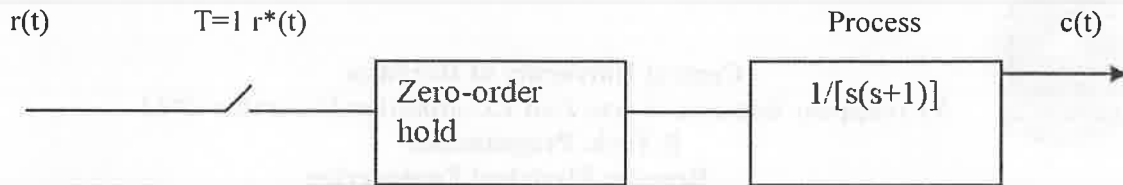

Fig.1
Q. No 3 Obtain the unit impulse response of the open-loop sampled data system shown in Fig.1